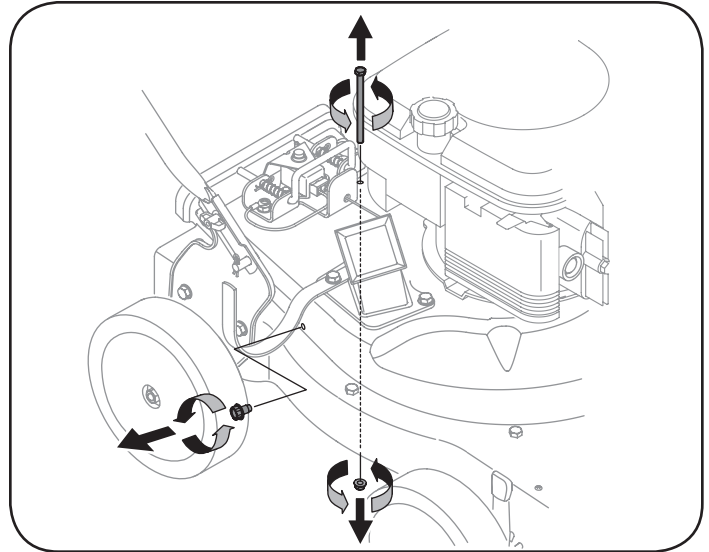

Figure 20
5. Remove self tapping screw on right side of unit that attaches to the flail screen. It may be necessary to remove the hose bracket to get access to the screw. See Figure 20.
6. Remove hex screw on top of rear housing near mounting bracket and the flange lock nut that secures flail screen. See Figure 20.